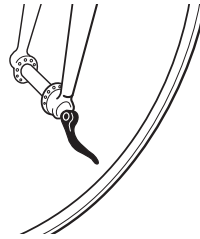
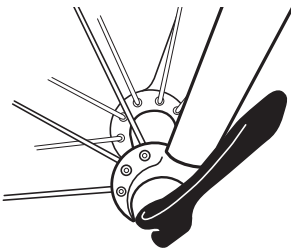

FIGURE 2
FIGURE 3
3. With the lever about halfway between the OPEN and CLOSED position [fig. 2], tighten the quick release adjusting nut on the opposite end of the quick release axle until finger tight.
4. Move the lever as far as it will go to the closed position [fig. 3 & 4]. At the half way closed position [fig. 2] you should feel resistance to this motion.
6. Orient the quick release levers so they do not interfere with any other part or accessory, such as rack or fenders. Be sure to orient the quick release levers in such a way that they will not become accidentally snagged while riding. [fig. 3 & 4].